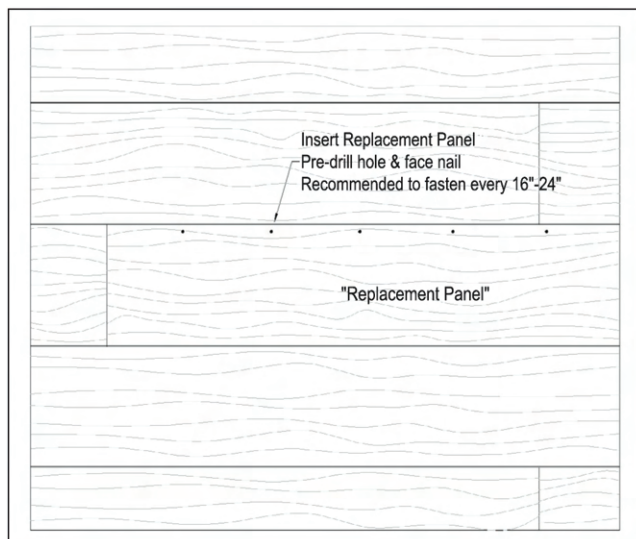

Figure 13
- Insert the plank, pre-drill holes along the top of the panel. The holes should be at least 1/16" larger in diameter than the trim nails (Figure 13).
- Insert the plank with pre-drilled holes & face nail every 16"-24" along the top of the panel using color matched trim nails; or, you can paint the head of the fastener (refer to the Everlast website for Sherwin Williams color-match paint options) (Figure 13).